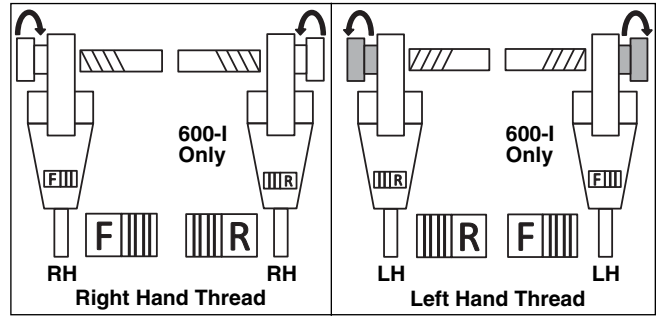

Figure 10 – Slide Switch/Die Head Orientation
7. Position the power drive F/R Slide Switch for the desired right or left hand thread. See *Figure 10*.